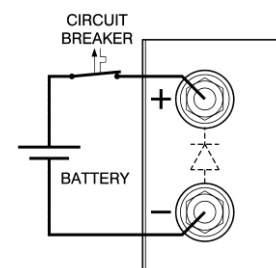

fig 5 - 8
Use a CIRCUIT BREAKER in series in order to protect the power supply from **accidental reverse connection** (see fig. 5 - 8). The circuit breaker should have a DC voltage rating twice the battery voltage. Use the very fast type (Z), a type meant for protecting semiconductors (see table 5 - 2).
- The Remote ShutDown can be operated on CON E by a voltage of +4 V...+12 V or by a relay contact between Vref and Remote ShutDown (pin 9 and 5) (see fig. 5 - 9).